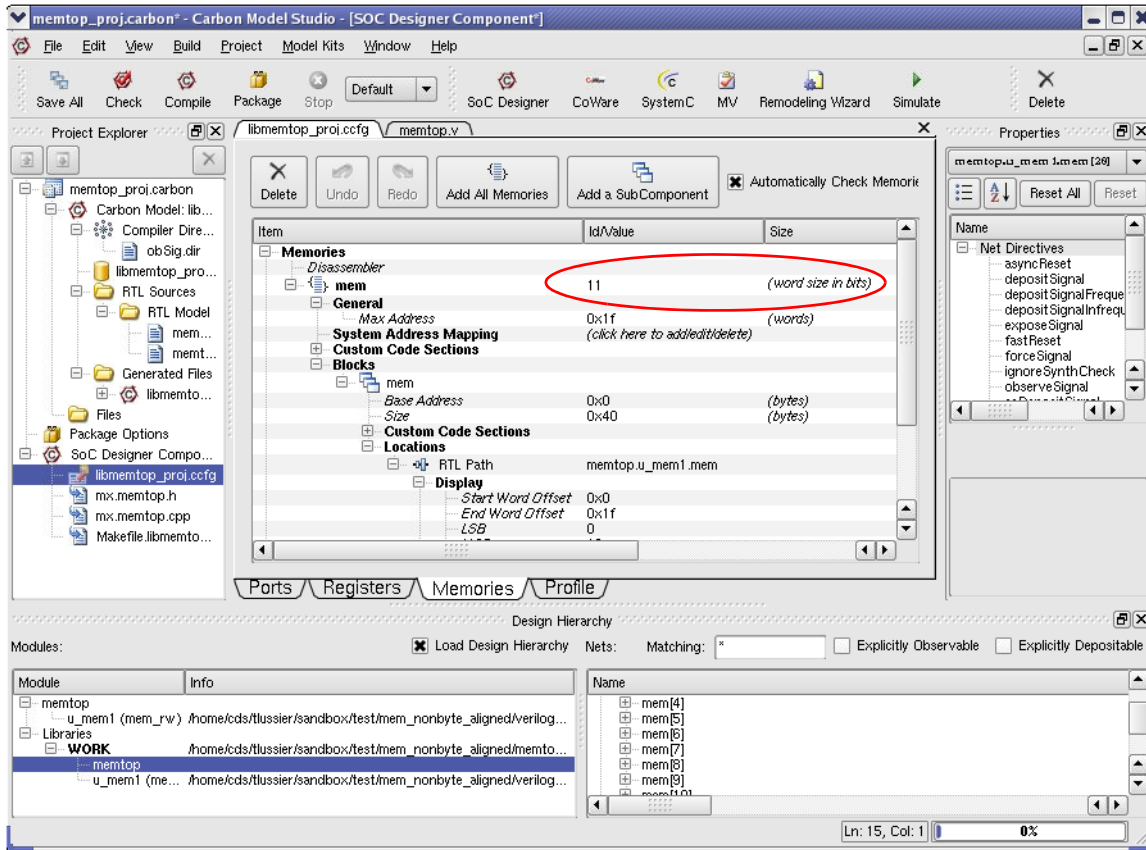

Figure 5-41 Changing the Word Size in Bits value
2. Increase the "word size in bits" value to a byte-aligned value by clicking on the value in the Id/Value column and entering the new value (see Figure 5-41).